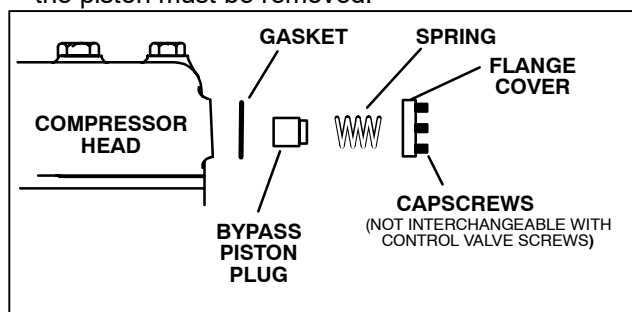

Figure 4-8. Removing Bypass Piston Plug
- a. Remove the three socket head capscrews from both unloader valves on the side heads of the 05G compressor. Remove the unloader valve and bypass piston assembly, keeping the same capscrews with the assembly. (See Figure 4-8) The original unloader valve must be transferred to the replacement compressor. The plug arrangement removed from the replacement is installed in the original compressor as a seal. If piston is stuck, it may be extracted by threading a socket head capscrew into top of piston. A small Teflon seat ring at the bottom of the piston must be removed.